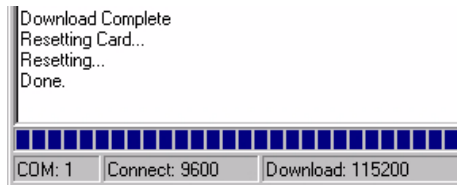

Figure 11: Update Process Complete
7. The receiver should finish downloading and reset. The process is complete when "Done." is displayed in the main display area, see *Figure 11* on *Page 108*.